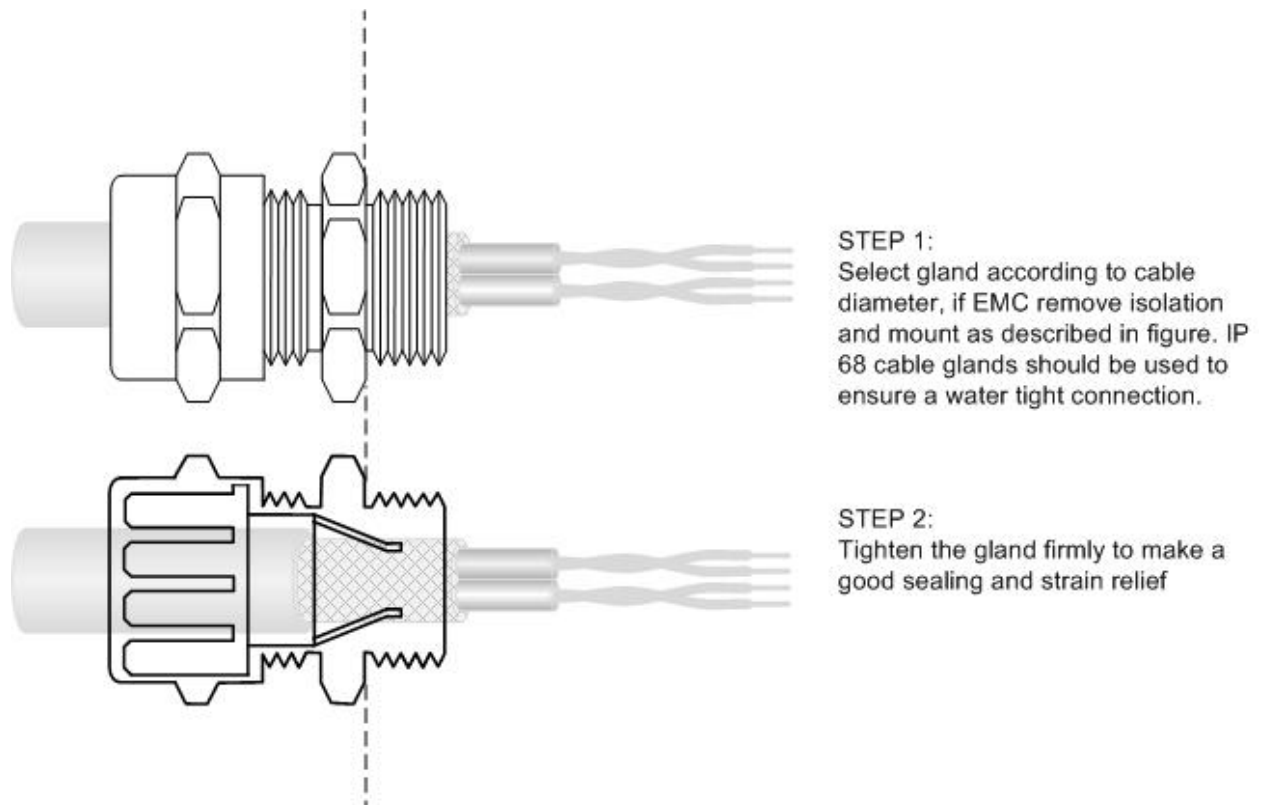

Fig. 3. Detailed drawing of cable gland
2. Make sure cable input through gland is according to description in Fig. 3.
3. Make sure cable input through gland is according to description in Fig. 3.